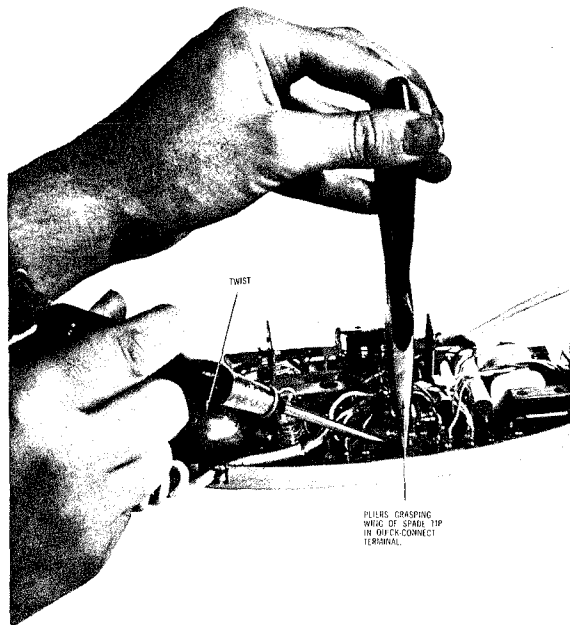
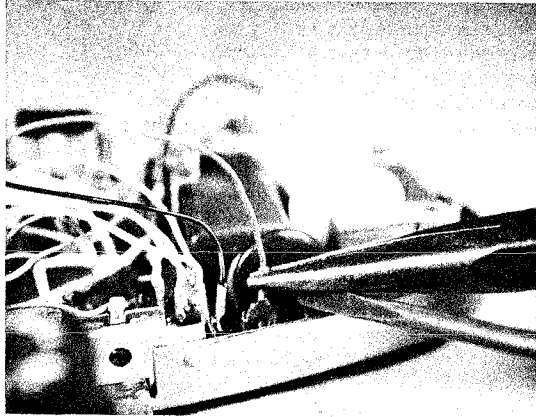
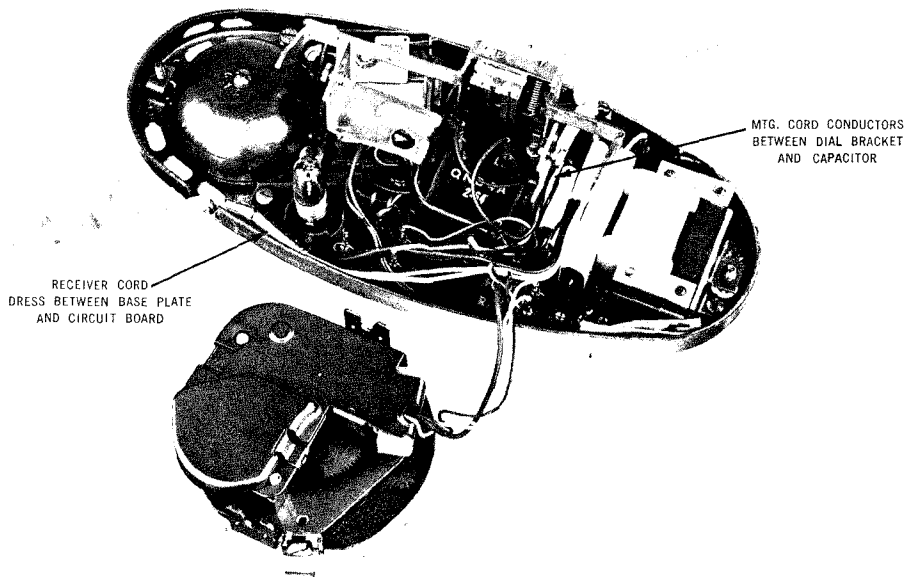

Fig. 10 — Method for Removing Spade Tips from a 702BQ1A Telephone Equipped With Quick-Connect Terminals
Fig. 11 — Method of removing Spade Tip
Fig. 12 — Telephone — Location of Set Cording
2.12 The 702B type differs from the 701 and 711 types, in that it uses a printed circuit type network and quick connect terminals. Cord connections are made to the networks by pushing spade tips into split terminals, Figs. 10 and 11. 702B Sets manufactured before Jan. 1, 70 are equipped with the QNB4A-2 network and after that date, the QNB17A network.
To remove the spade tip grasp the wing of the spade with the pliers held vertically. Insert the tip of the C or D type screwdriver under the tip of the longnose pliers and twist screwdriver so as to lever the pliers upward. **To insert** the spade tip, place it loosely in the quick-connect terminal. Then press it firmly into place with one tip of the pliers on each wing of spade tip. (See Fig. 10) On the later design, dual clip type, **to remove** the spade tip, grasp the spade tip by the shank with long-nose pliers. Use the blade of a screwdriver as a fulcrum to lift the end of the pliers and spade tip clear of the clip. (See Fig. 11) **To insert** spade tip, place it easily in place with the long-nose pliers. Care must be taken to dress all set wiring so as to prevent it from interfering with the switch assembly or dial mechanism. (See Fig. 12)
4.04 The 702 type telephone uses a quick-connect terminal into which the cord conductor spade tips are inserted. Whenever the telephone set housing is removed for maintenance, the tightness of these connections should be checked. If found to be loose, the terminal slot may be forced closed by using longnose pliers. When inserting or removing spade tips from quick-connect terminals, longnose pliers must be used. For detailed instructions, see para. 3.02 and Fig. 10 & 11.